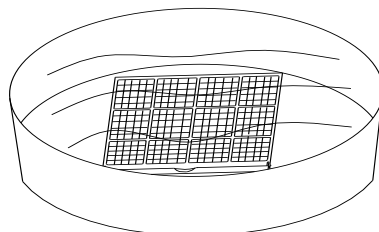

Figure 15
- 3). For cleaning, put the evaporator filter frame, condenser filter frame, evaporator filter mesh, and condenser filter mesh into warm water (about 40°C) mixed with a neutral cleaner, and then dry them in the shade (as shown in Figure 15).